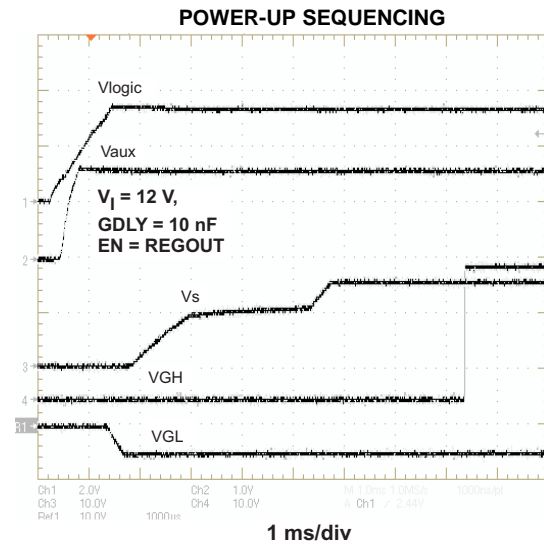
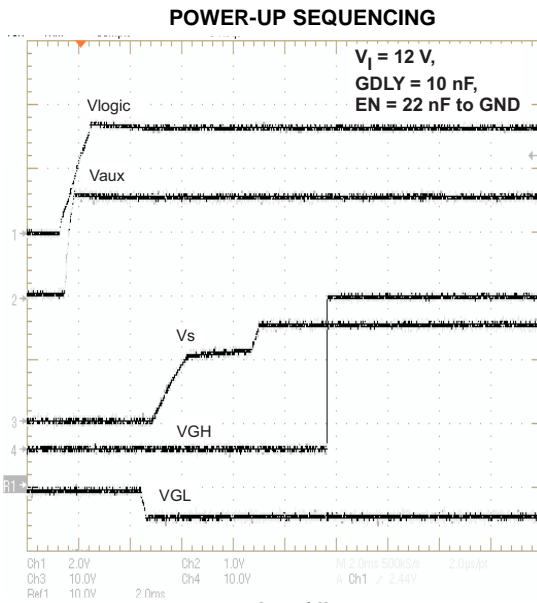
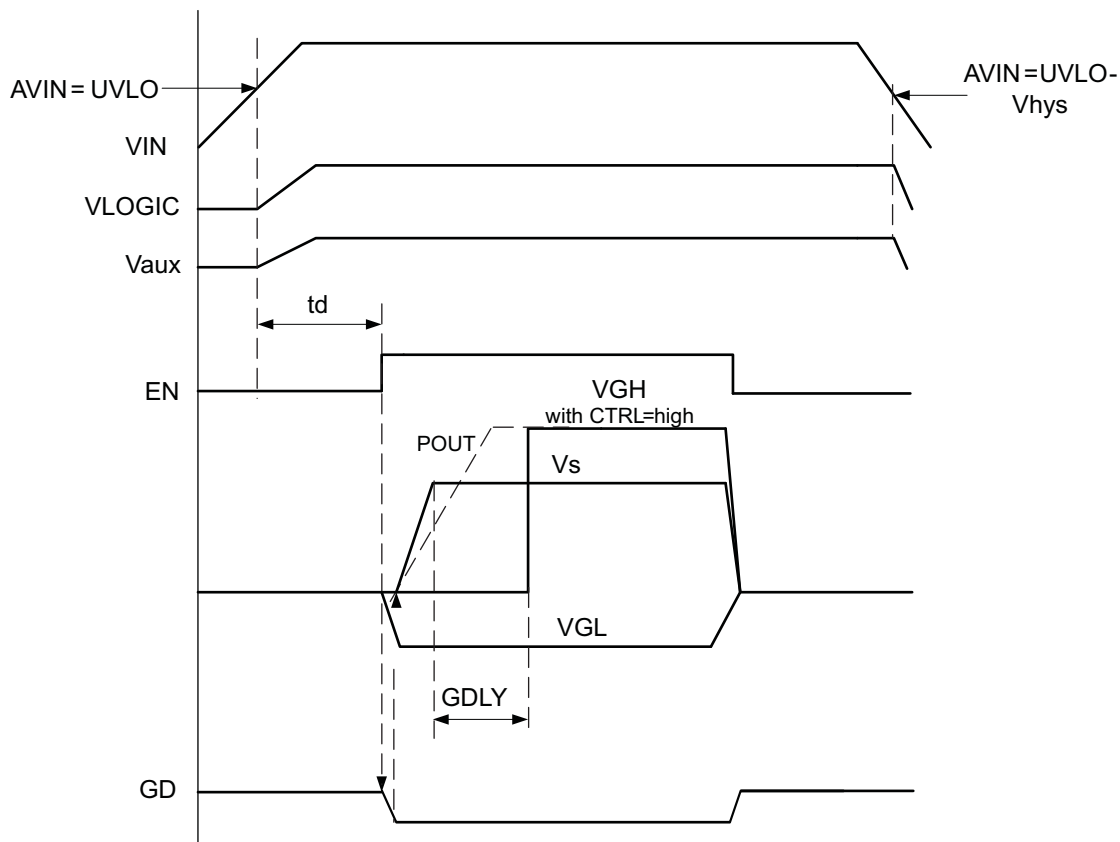

Figure 18.
Figure 19.
Figure 23. Power Up Sequencing
|                                     | Power up sequencing                     | EN connected to REGOUT             | <a href="#">Figure 18</a> |
|                                     | Power up sequencing                     | External capacitor connected to EN | <a href="#">Figure 19</a> |
The device has an adjustable start-up sequencing to provide correct sequencing as required by LCD. When the input voltage exceeds the undervoltage lockout threshold, then the step-down converter and LDO controller start-up at the same time. As the enable signal (EN) goes high, the negative charge pump starts up followed by the boost converter  $V_s$  starting at the same time as the positive charge pump. See the typical curves shown in Figure 18, Figure 19, and Figure 23.
If no logic control signal is available, it is also possible to connect a capacitor to this pin to set the delay time  $t_d$  as shown in Figure 23 and Figure 19.